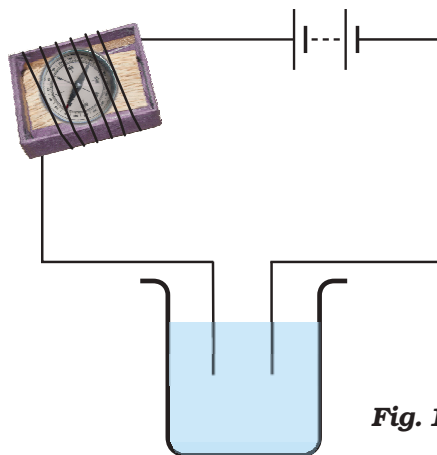

Fig. 14.9
3. Name three liquids, which when tested in the manner shown in Fig.14.9, may cause the magnetic needle to deflect.